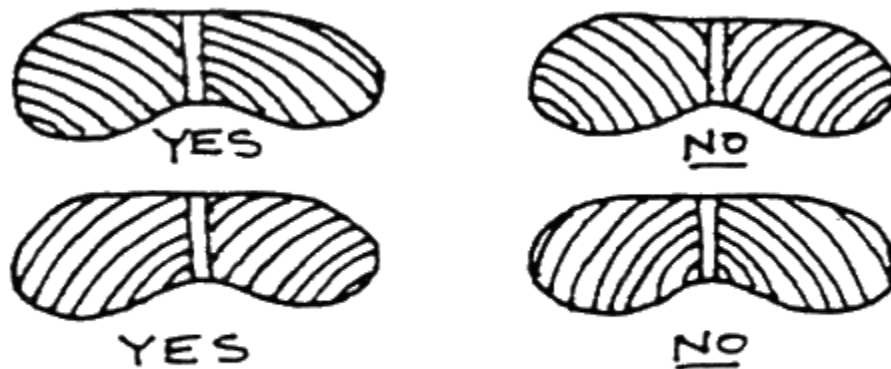

FIGURE 5
Step 4. Now you are ready to complete the right side. Place the goggles over the template and put a piece of the Fresnel lens over the right side of the goggles; make sure the image shifts in the same direction as it did on the left side. (HINT: the grooves in the Fresnel lenses need to be oriented in the same direction as shown in Figure 5).
The image may shrink in size and that is OK, but make sure the image stays in line on the left and right sides; see Figure 5. Once it is lined up as in Figure 5, outline the lens shape with a Vis-à-vis pen, cut it out, and snap the lens piece into the outside lip of the goggles. Do not worry if you have a space between the two lens pieces, or if the two lens pieces overlap a little.